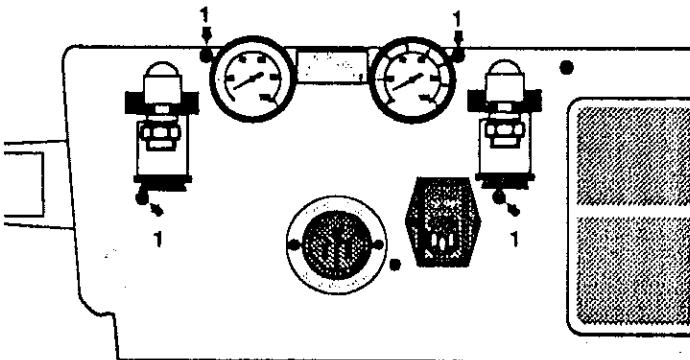

Figure 8-5
- Remove the four screws(Figure 8-5, Ref. 1) and lift the manifold from the ventilator.